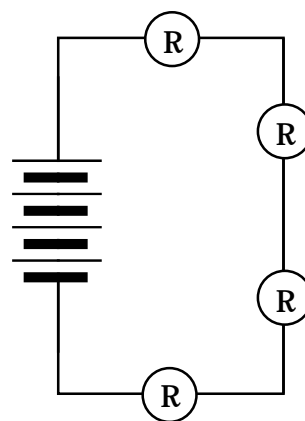

Figure 5.3b
2. Show the circuit's final condition without a capacitor by drawing all appropriate symbols again on Figure 5.3b.